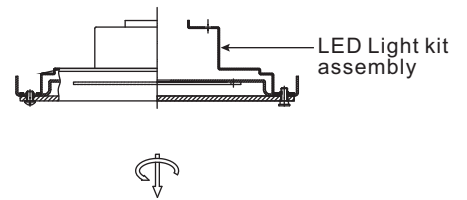

Figure 13
Step 1. Remove the light shade from the LED light kit assembly. (Fig. 13)